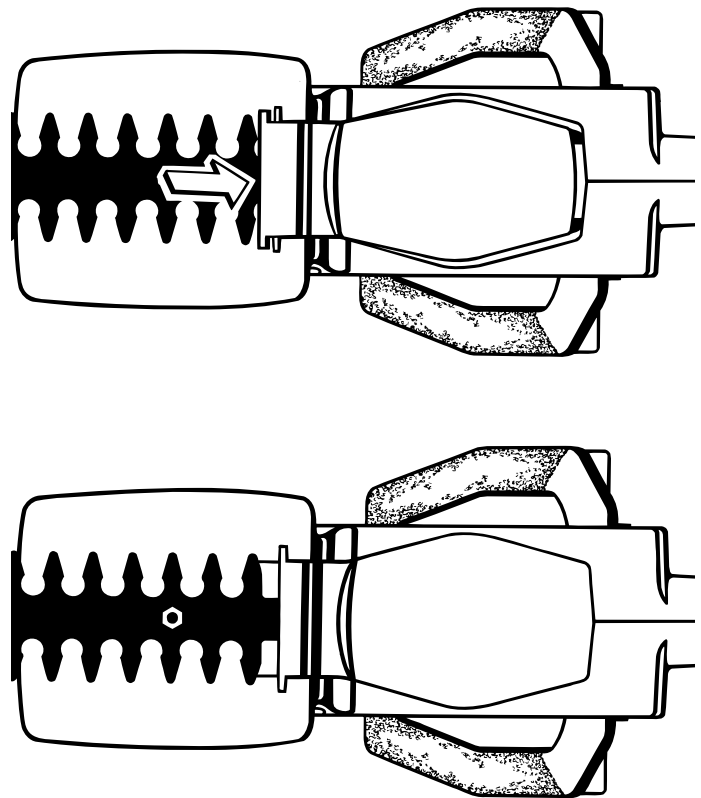

Fig. 15
10. Replace blade cover. Place rear tab inside housing, align front tabs with slots in housing, then slide blade cover back into its correct position (Fig. 15).